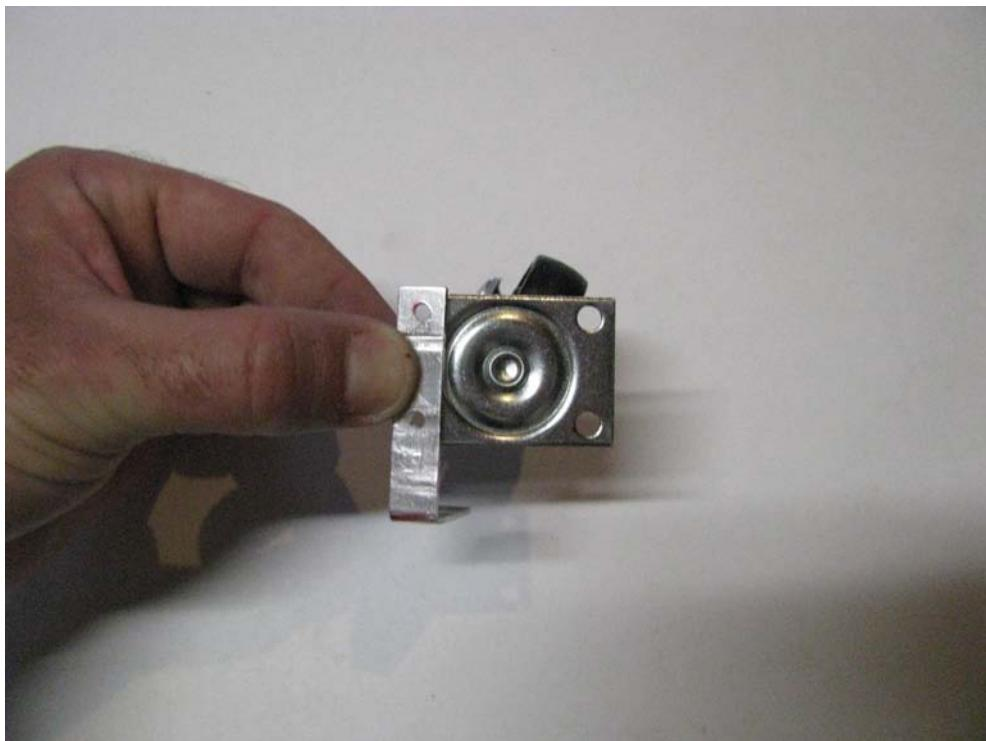

Figure 4-24. Drill holes through “L” bracket where marked.
2. Drill holes for the caster mounting plate to mount to the aluminum brackets, as shown in Figure 4-24. My caster wheel required (2) 1.75 inches by 1.25 inches "L" brackets.